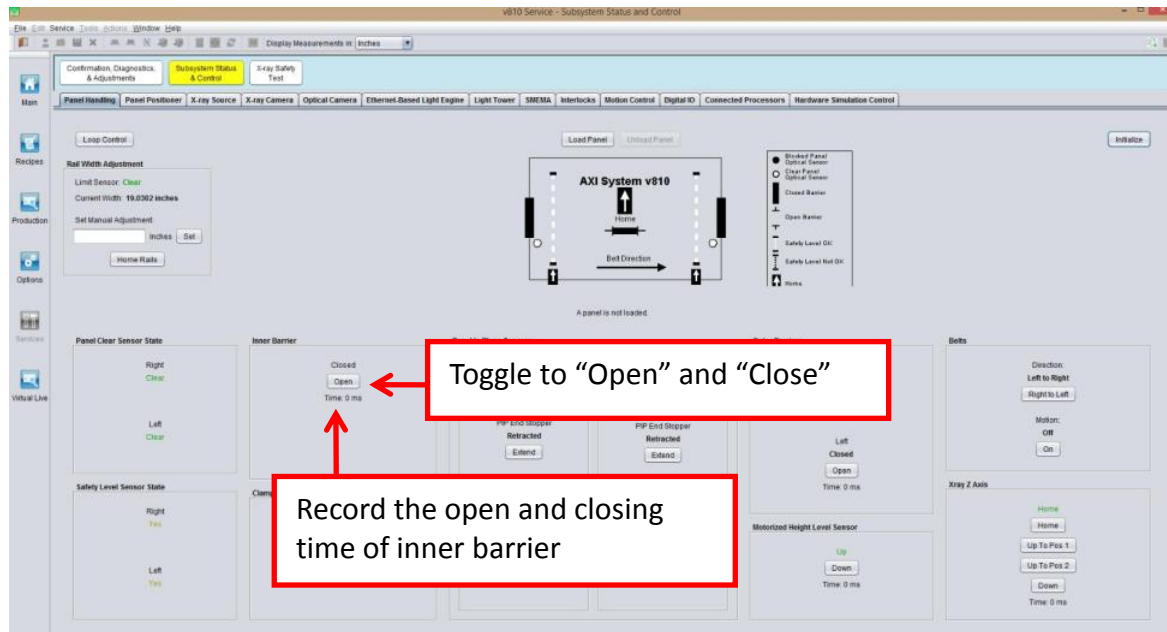

Figure 23 Panel Handling (Inner Barrier Speed)
5. Manually toggle inner barrier as below Figure 23